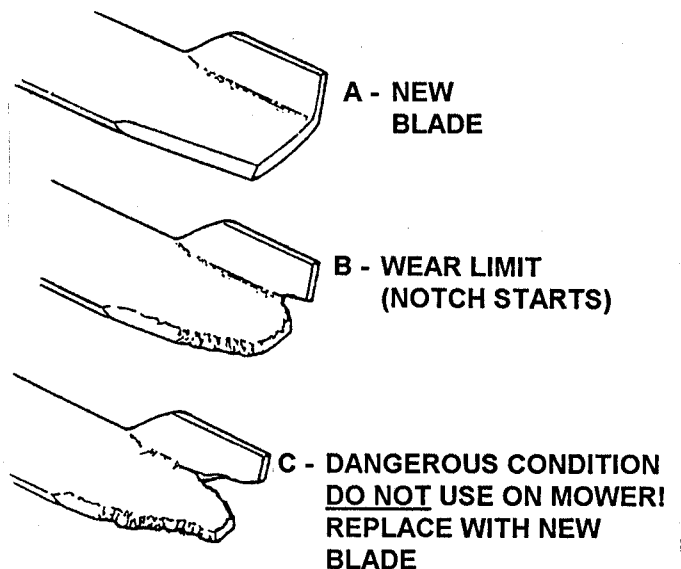

FIGURE 36
Check blades after each use for signs of excessive wear and damage. See Figure 36 for blade wear limits.
3. Clean and inspect each Blade for excessive wear and damage. Refer to Figure 36 for Blade wear limits.